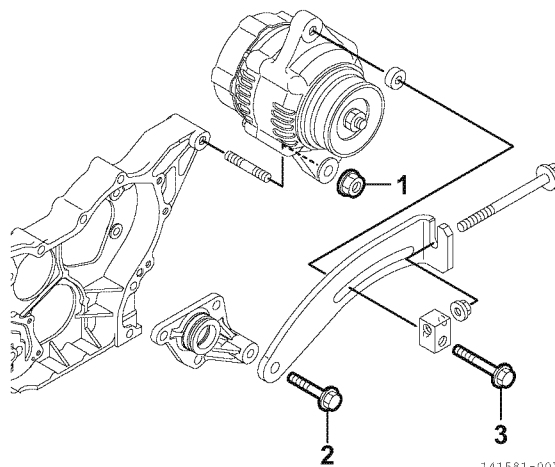

Figure 12-21
- Insert the stud bolt of the gear case to the alternator, and temporarily tighten the alternator mounting nut (1, Figure 12-21).
- With the belt adjuster mounting bolt (2, Figure 12-21) temporarily tightened, temporarily tighten the belt adjuster tightening bolt (3, Figure 12-21).